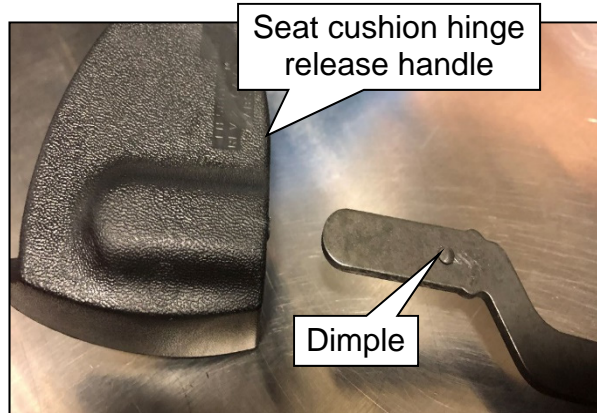

Figure 6
**HINT:** Figure 6 shows the dimple that creates the interference fit of the seat cushion hinge release handle.